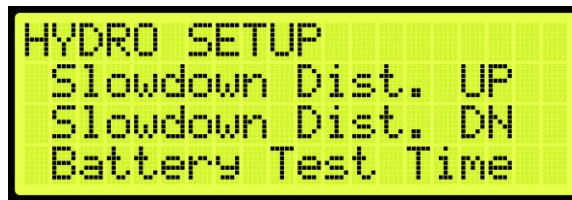

Figure 347: HYDRO SETUP Menu – Slowdown Distance UP or DOWN
2. From the HYDRO SETUP menu, scroll and select Slowdown Distance UP or DOWN (See Figure 347).
2. From the HYDRO SETUP menu, scroll and select Slowdown Distance Up (See Figure 347).